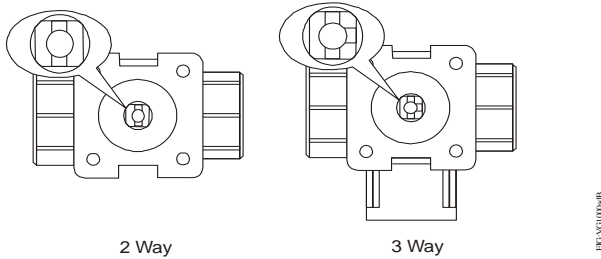

**Figure 9: Mount the Actuator**
7. Install the actuator on the ball valve (Figure 9). Tighten the actuator mounting screw to a torque of 10 to 12 lb-in. (1.1 to 1.4 N·m) and snap in the large adjustable pointer into place.